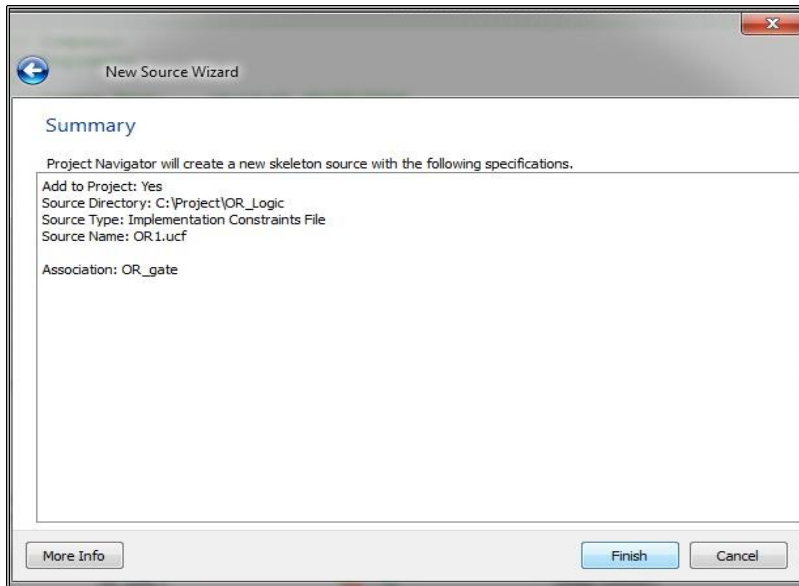

Fig 1.29: Summary Window
28. **Summary Window** will be displayed (Fig 1.29). Select **Finish**.